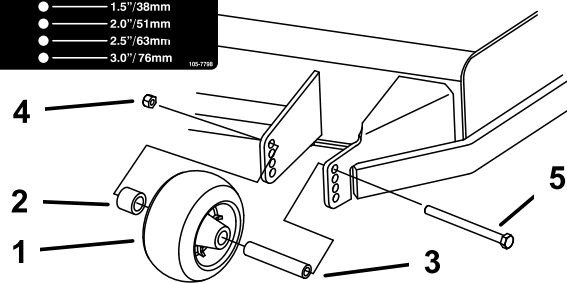
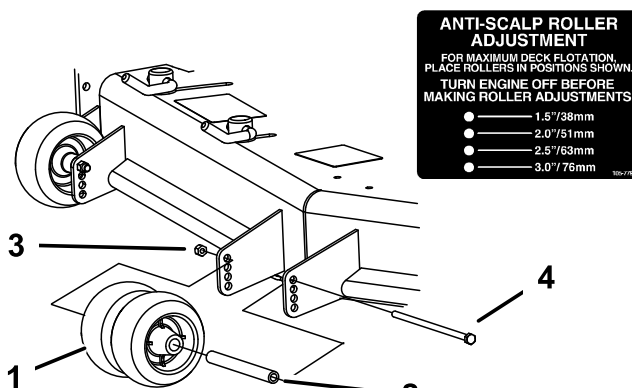
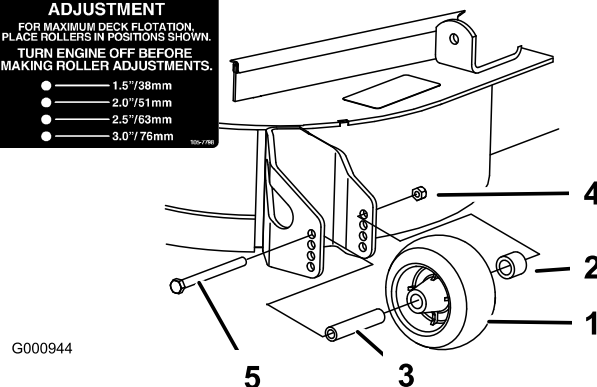

Figure 24
Figure 25
Figure 26
3. Adjust the anti-scalp rollers as shown in Figure 24, Figure 25, and Figure 26.